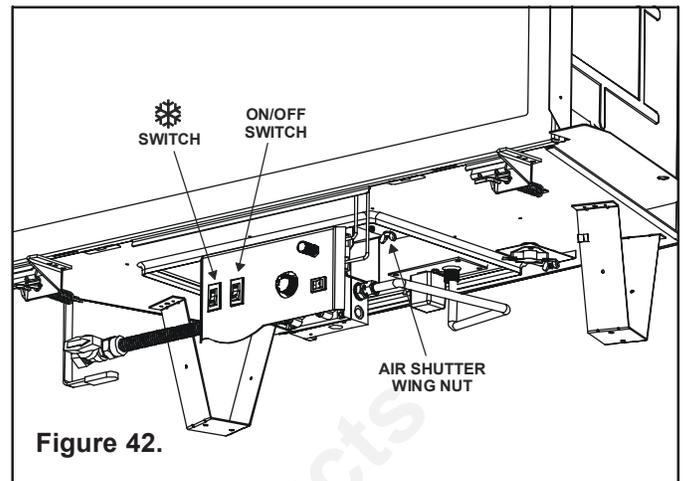

Figure 42.
This fireplace has an adjustable air shutter (which controls the primary air) factory set for the minimum vertical vent run (see Figure 42). If your installation has more than the minimum required vertical vent length, adjustment of the air shutter may be necessary to obtain optimal flame appearance. **This should be adjusted by a qualified installer at the time of installation.**
To change your Intellifire ignition to be used in the cold climate mode remove the ON/OFF switch assembly from the manual bag (see Figure 42).
2. Insert the ON/OFF switch assembly into the control panel under the ❄️ (see Figure 42).